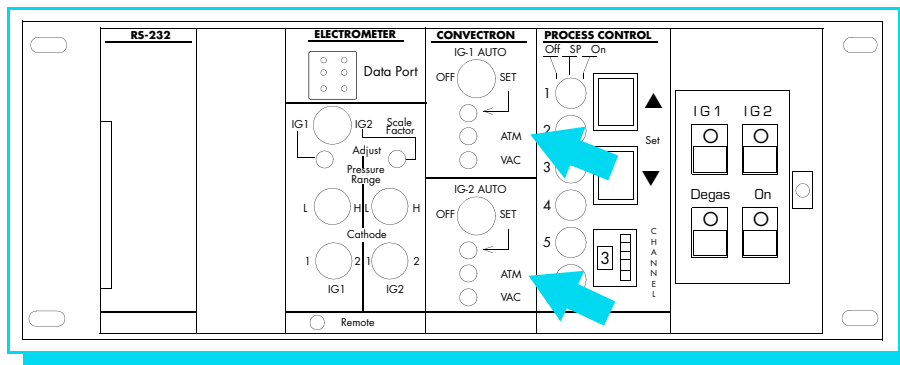

Figure 4-17 Control Unit Front Panel (with Door Open) Showing Convecatron Gauge Zero and Atmospheric Adjustments.
2. With power on and at vacuum less than 1×10^{-4} Torr for at least 15 minutes, adjust VAC for gauge A (see Figure 4-17) until display A indicates 0.0 0 Torr/mbar or 0.0 0 Pa, not 1.0 -4, 1.0 -2, or 0.0 -0. A display of 0.0-0 indicates the gauge is set below 0.00.